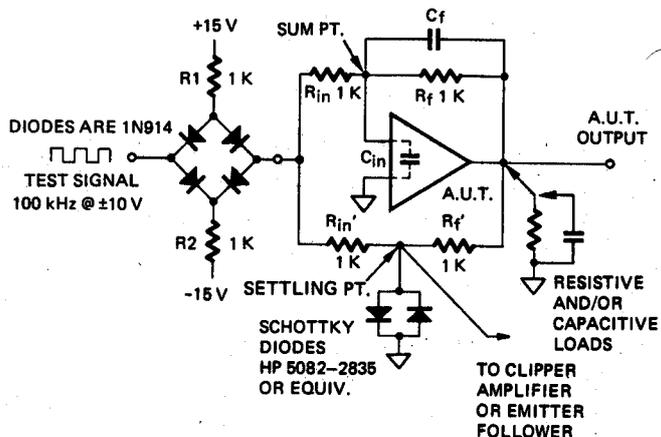

Figure 4A. Test Circuit
If settling time cannot be extrapolated, calculated, guessed, or ignored, it must be measured. This can be a difficult and misleading task if the proper procedures are not followed precisely. Figure 3 illustrates the settling characteristics of the 1430 using the test circuit given in Figure 4A.
- ① @ 1 MHz (See circuit of Figure 4A)
- ②  $R_i = R_f = 1$  kΩ